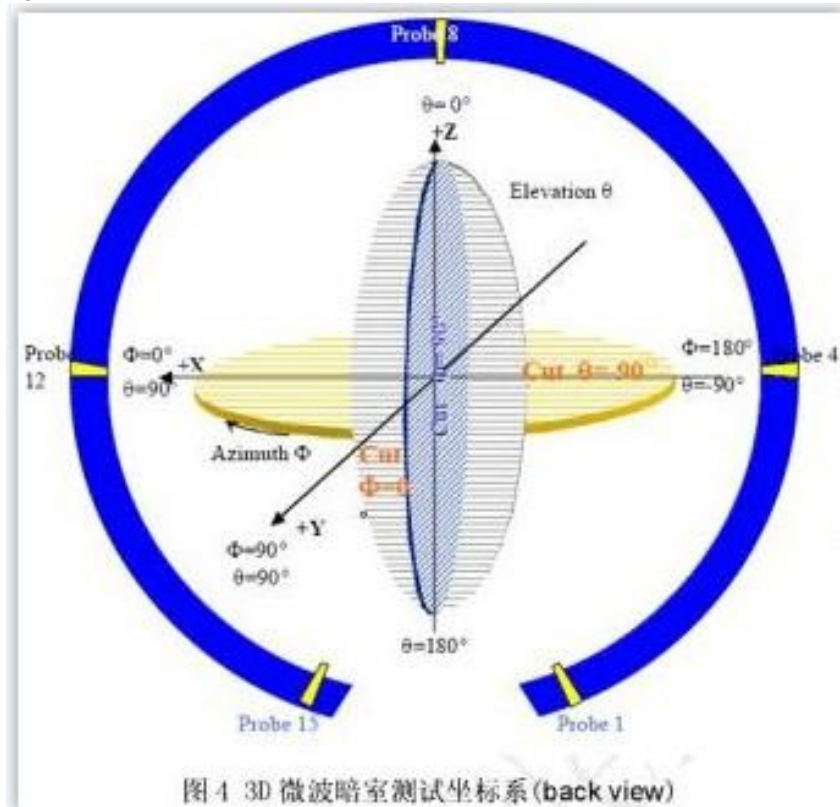

图4 3D 微波暗室测试坐标系 (back view)
(2) Each PE bag contains m units of the product (subject to actual packaging capacity)
(3) Then, place the small bags containing the finished products into a (Ring) box (subject to actual packaging requirements)
(4) Place the packaged FPCs into a carton; each box can hold 5 large bags, with 5,000 pieces per box (see Figure 4). (Subject to actual packaging specifications)